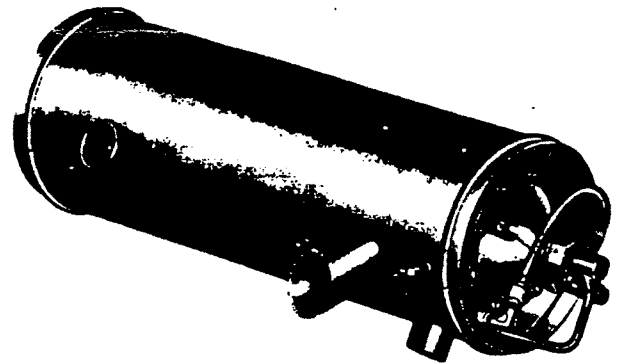

Figure 1. Aircraft Heater Assembly
a. This instruction provides maintenance information for the C83A28, D83A28, E83A28 and F83A28 Aircraft Heaters, Type S-50, manufactured by *Janitrol Aero Division, Midland-Ross Corporation, Columbus, Ohio. (See figure 1.) These heaters are designed to provide heated air for aircraft cabins, cargo spaces, anti-icing systems and instruments.